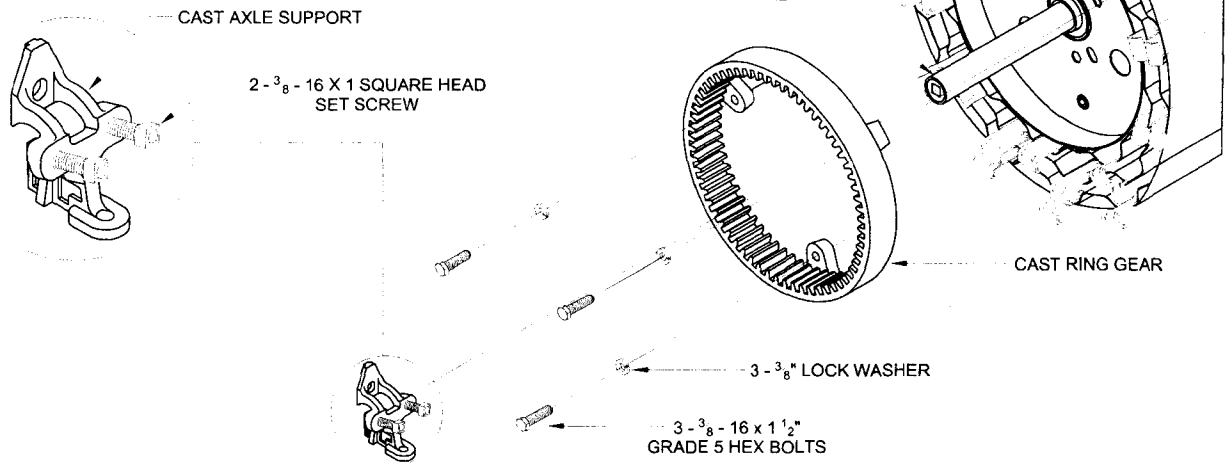

FIGURE 14: CAST AXLE SUPPORT AND CAST RING GEAR TO DRUM ASSEMBLY
- ✧ Slide cast axle support over axle until approximately $2\frac{3}{8}$ " of axle is outside of cast axle support. See Figure 14.